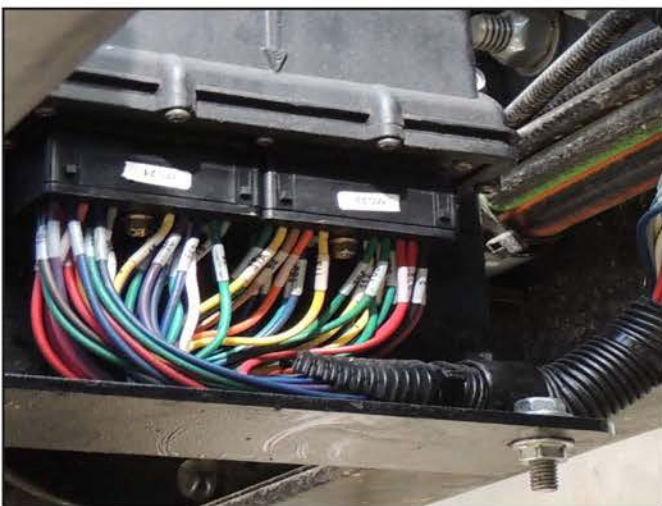

Figure 14: Secure the harness to the bracket using the P-Clamp.
23. Install the P-Clamp so that the harness will be attached to the control node bracket (through the drilled hole on the bracket) (Figure 14).